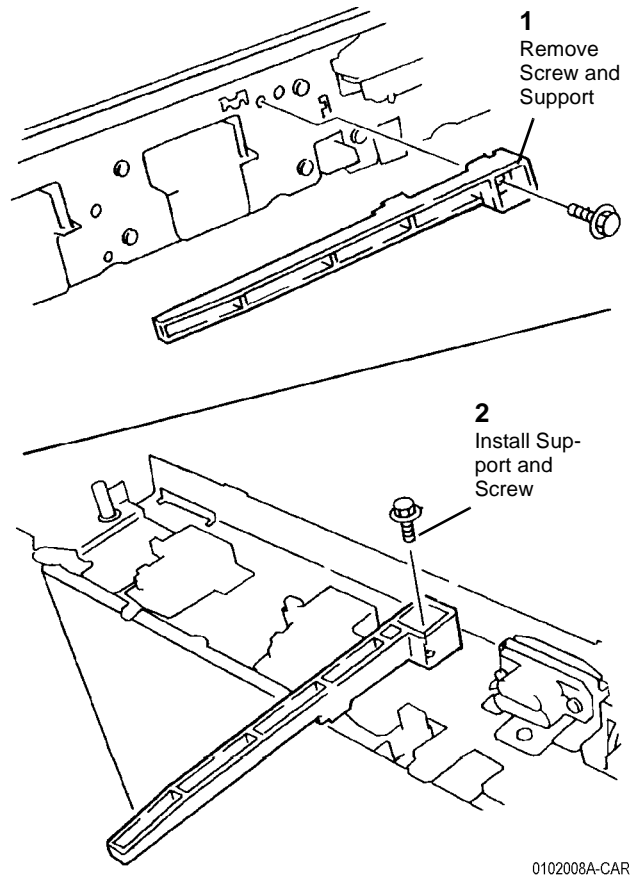

Figure 4 Positioning Latch
6. Position Support (Figure 4)